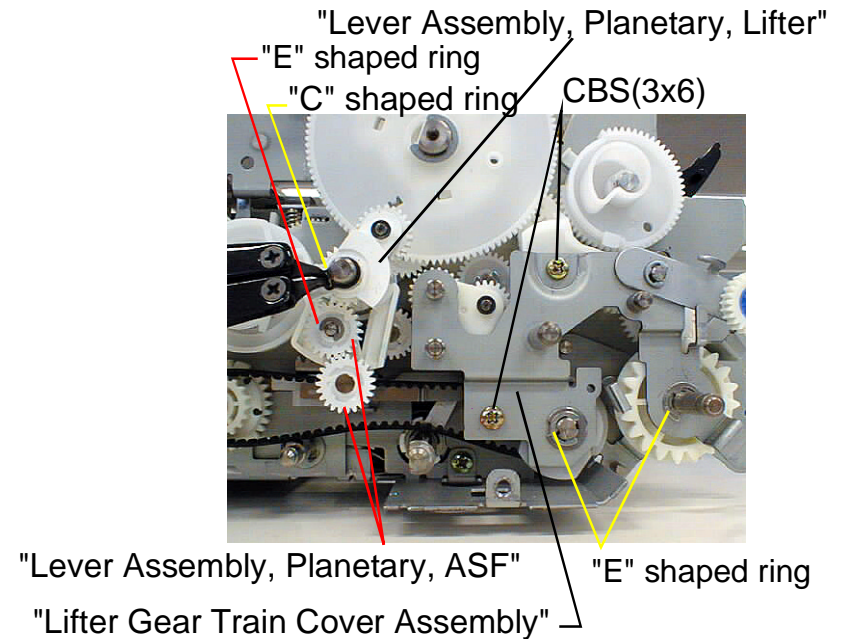

Figure 4-81. "Lifter Gear Train Cover Assembly" and "Lever Assembly, Planetary, Lifter" Removal
(Refer to Figure4-81)
- 18.Remove 2 CBS screws(3x6) on the “Lifter Gear Train Cover Assembly”, and remove “Lifter Gear Train Cover Assembly”. (Refer to Figure4-81)